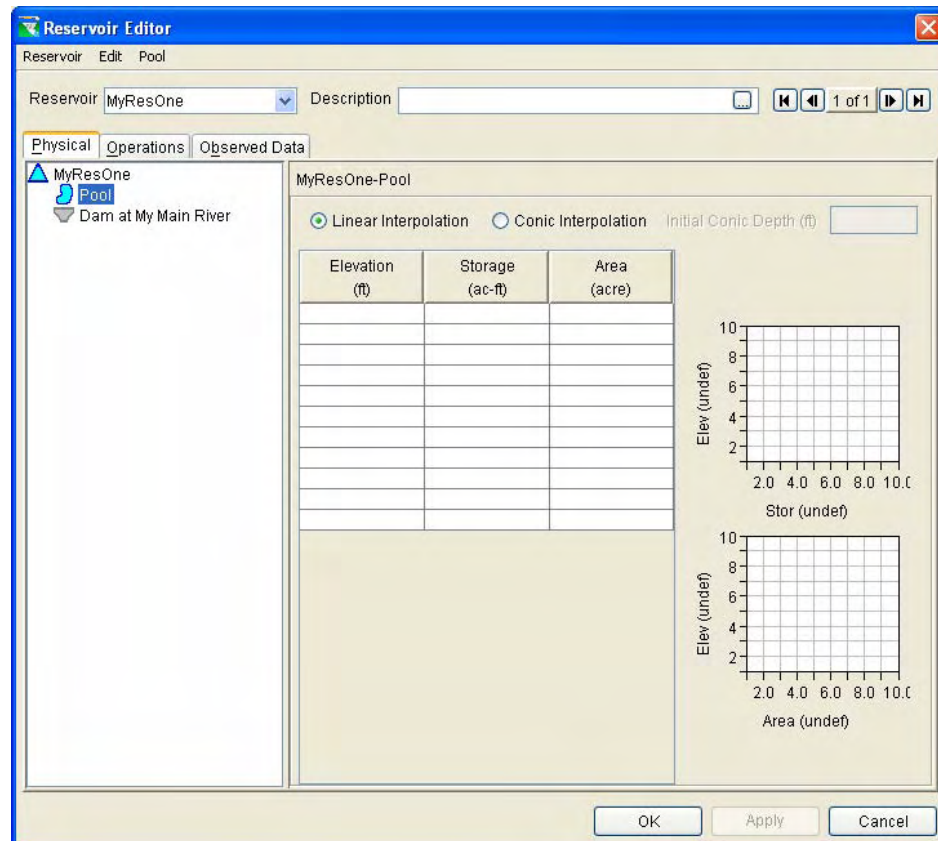

Figure 19 – Reservoir Editor, Pool Data
4. **Edit Reservoir Properties.** With the reservoir tool  or the pointer tool  selected, right-click on a reservoir, select **Edit Reservoir Properties** and the Reservoir Editor window will appear as shown in Figure 19. This editor has a tab panel with three tabs: **Physical** tab [Chapter 10], **Operations** tab [Chapters 11 and 12], and **Observed Data** tab [Sections 10.21 and 13.8].
- **Enter Pool Properties.** Click on **Pool** to enter the Elevation vs. Storage vs. Area data (as shown in Figure 19). At least two rows are required for **Elevation**, **Storage** and **Area** data, with values increasing down the columns (no duplicate values). The maximum elevation should not exceed the Elevation at top of dam, which is input when **Dam** is selected. Pool losses can be specified by right-clicking on **Pool** and selecting **Add Pool Evaporation** and/or **Add Pool Seepage** [Sections 10.2 through 10.4 and 10.14].